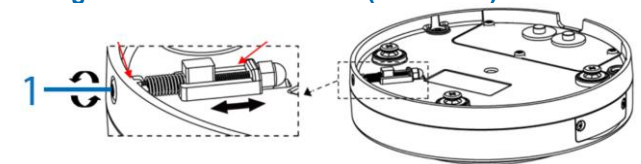

Figure 10
- Use the torx wrench to rotate the security screw (1) (Figure 10) counterclockwise to securely attach the camera to the flat bracket.